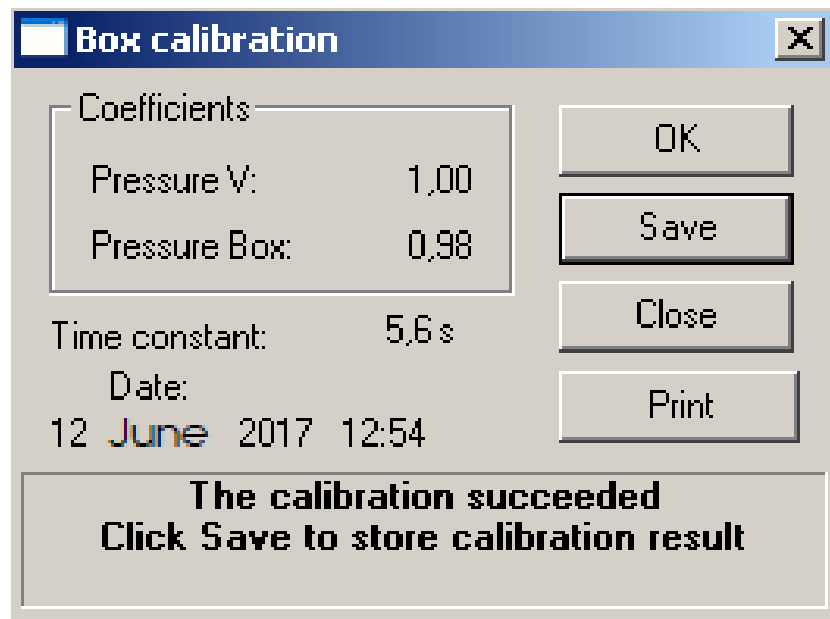

Fig. 16. Dialog box *Calibrate chamber*
The chamber is calibrated with the dialog box *Chamber calibration* ( $\Rightarrow$  Fig. 16) called up after selecting the command *Calibrate chamber* (menu *Tools*).
5. After calibration displayed will be the dialog box *Calibrate chamber* ( $\Rightarrow$ Fig. 16). If the calibration has been successful, there will appear button *Save*, used for saving the calibration result.